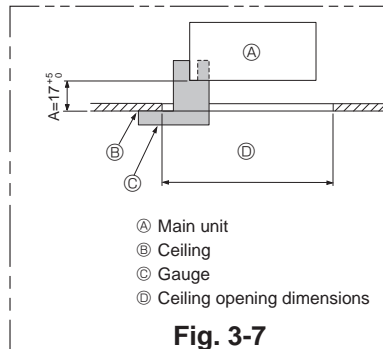

Fig. 3-7
- Make sure that A is performed within 17 - 22 mm. Damage could result by failing to adhere to this range. (Fig. 3-7)